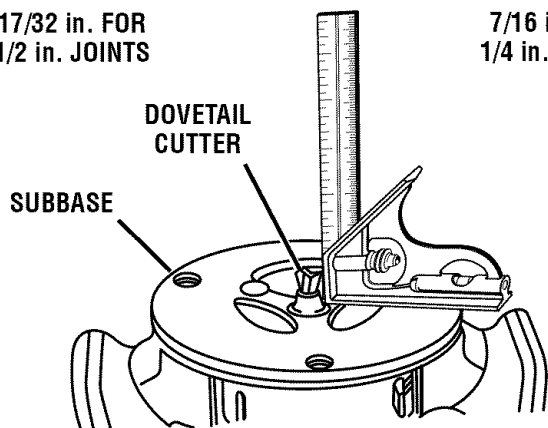

Fig. 9
- Adjust the base on the router until the cutter extends 17/32 in. beyond the router subbase for 1/2 in. joints. Adjust 7/16 in. beyond the router subbase for 1/4 in. joints. See Figure 9.